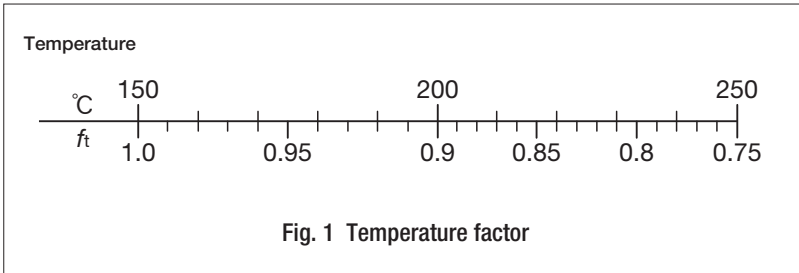

Fig. 1 Temperature factor
- f_t : Temperature factor (See Fig. 1.)